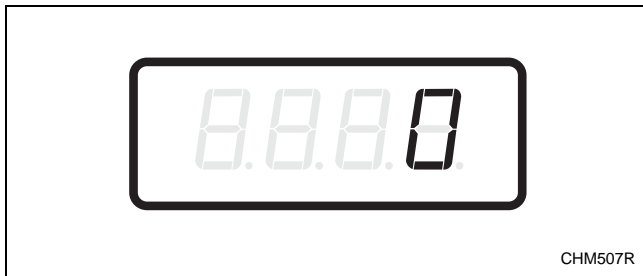

Figure 9
4. When “AtS4” appears in the display, press the START (enter) keypad. There are five digits in the Heavy/Hot Vend Price. The fifth digit will appear in the display and will flash one (1) second on, one (1) second off. Refer to *Figure 9*.